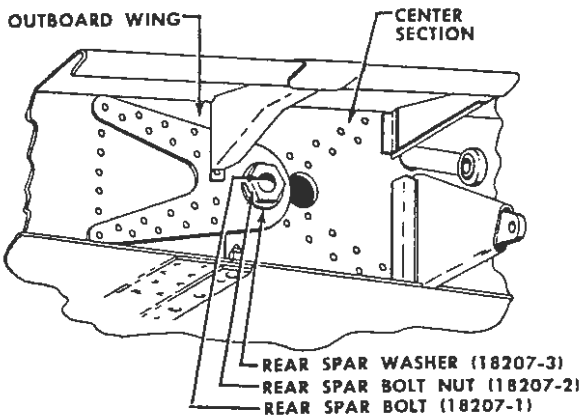

Figure 2-8. Rear Spar Fittings
- h. Remove the rear spar bolt and nut. See figure 2-8.